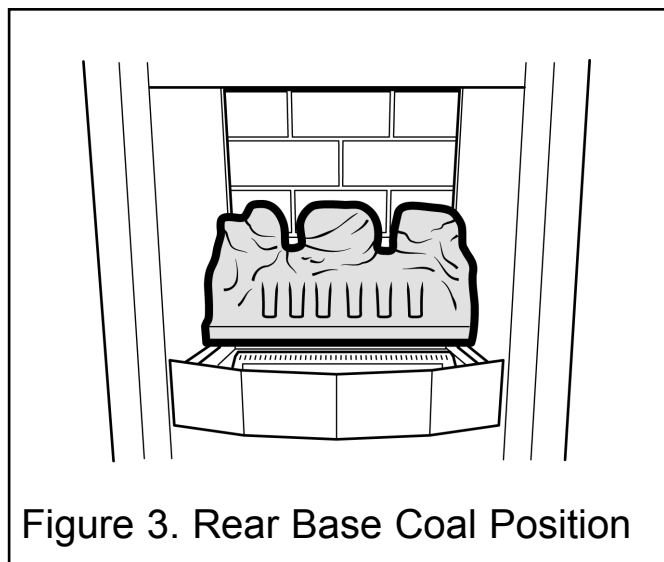

Figure 3. Rear Base Coal Position
1. Place the rear base coal in the firebox. It should rest on the ledges at the sides and back of the firebox and its rear face should touch the rear ceramic wall. See figure 3.